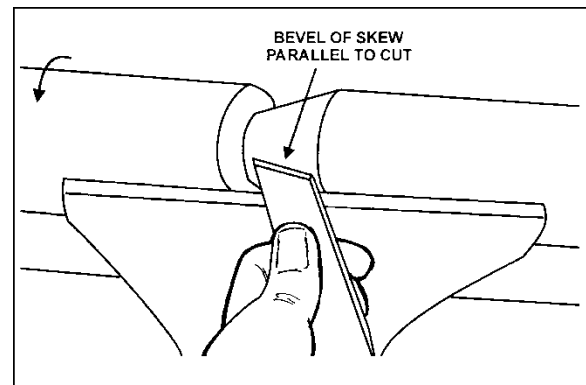

Figure 25
4. With the bevel parallel to the right side of the cut, raise the handle and push the tool in to the desired depth, as shown in Figure 25.